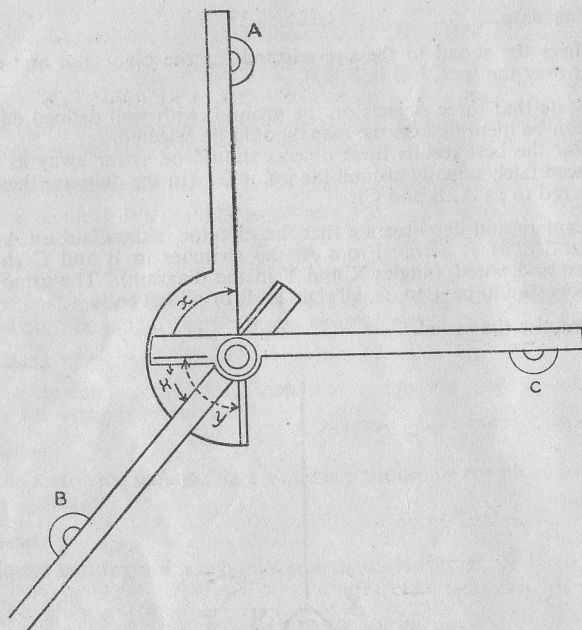

FIG 4
- (e) The bevelled edge of the fixed arm should be laid on the left edge of A and then by moving the protractor about get the bevelled edges of the two pivoting arms over the left ends of B and C respectively as in Fig 4 above. Care must be taken that the eye is immediately above the bevelled edges when the resector is set.